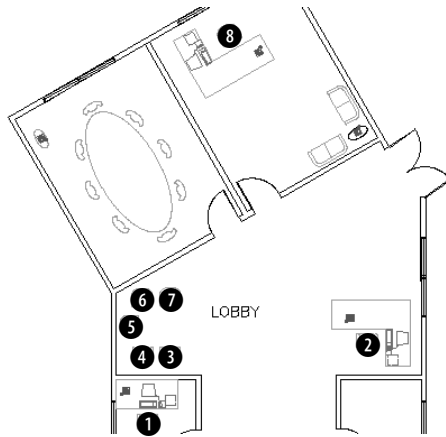

Figure 18-41: The office building plan includes several blocks of armchairs with invisible attributes.
1. Open `ab18-j.dwg` from the CD-ROM. This is the same office building plan that you used earlier in this chapter, shown in Figure 18-41. Save the drawing as `ab18-11.dwg` in your AutoCAD Bible folder. Change the current layer to 0.
1. Open `ab18-j.dwg` from the CD-ROM. This is the same office building plan that you used earlier in this chapter, shown in Figure 18-41.